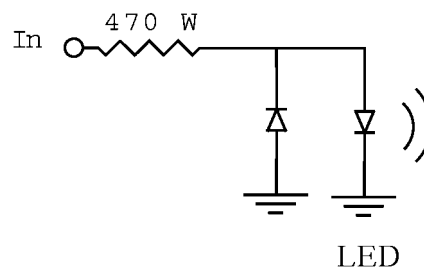

Figure 1
Connect the circuit in Fig. 1, and drive the LED from the signal generator at a frequency of a few Hz. The LED is an electrical diode, which emits light when it is biased to conduct current in the forward direction. Since it is fabricated from a gallium arsenide compound instead of the familiar silicon, its forward voltage is much larger than the usual 0.7 V. What is the maximum forward current rating, and the maximum reverse voltage rating of the diode? Choose the resistor, R, to limit the current through the LED. *What is the purpose of the other diode?*
1) Connect the circuit in Fig. 1, using a light emitting diode (LED). This diode has the property that when it is forward biased it emits light which is proportional to the current flowing through it. Because it is made of a gallium aluminum arsenide compound instead of silicon the turn on voltage is much larger than the usual 0.7 volts. Apply voltages of between 1 and 10 volts to the input of the circuit, and observe the light coming out of the diode and the voltage at point A. *What is the approximate turn on voltage of the diode?* Apply sine wave and square wave forms to the input at frequencies between 1 and 10 Hz. *Can you see the difference between a sine wave drive and a square wave drive?* Use the dc offset control to bias the drive voltage so that the diode is never turned off. Adjust this control and the amplitude control to get as bright an output from the diode as possible.